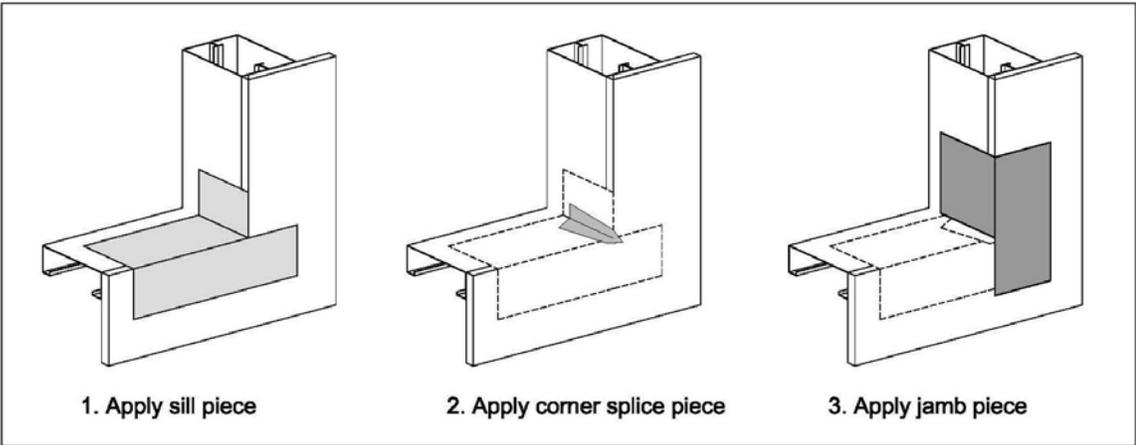

Figure 1
- 4.3.5.2.1. Apply the EIFS Tape as shown in the detail below - Figure 1.